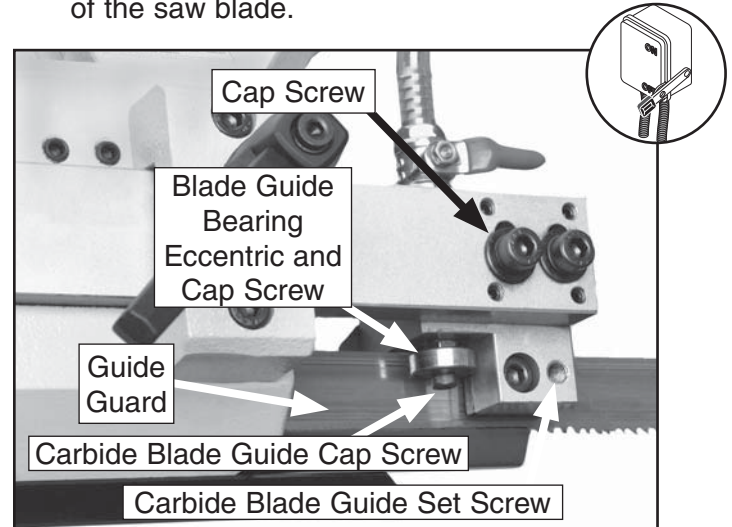

Figure 43. Upper blade guide adjustments.
4. Remove the two Phillips head screws and the blade guide guard, (see **Figure 43**).
6. Loosen both of the cap screws (**Figure 43**) and push the guide bearing housing down until the upper carbide pad rests on the back of the saw blade.
- Loosen the carbide guide cap screw and use the set screw (**Figure 43**) to set the carbide guide clearance to zero, but do not tighten the set screw so the carbide guides pinch the blade.